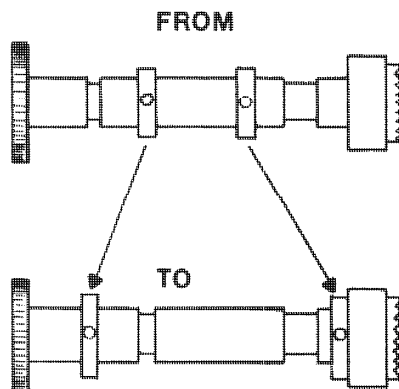

Figure 1
1. Change position of collars on clutch shaft, as shown in Figure 1, using #2 Bristol, PST-24 wrench.